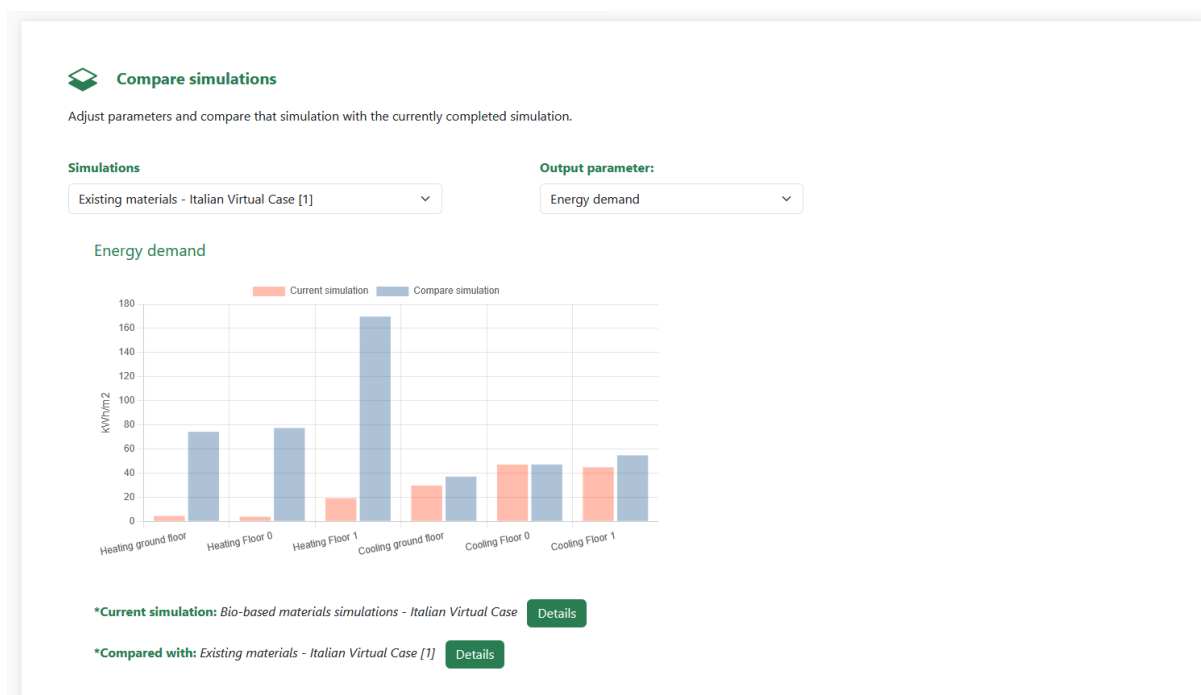

Figure 15: Simulation comparison of energy demand.
16. As seen in figure 15, below the chart the user can press on 2 'Details' buttons. Each one pops up a window with information about the simulation. So, in case the user does not remember which simulations are being compared, this window can help realize which configuration of solutions has been selected for each simulation.